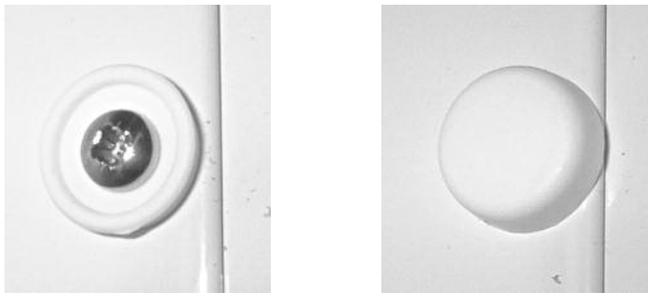

Figure a13i
13. Fix the 9mm Screws (L) into the Base Caps (K) and then screw fix into the holes drilled in Stage 12 with a Screwdriver. Press fit the Coloured Cover Caps (K) over the top of Screw Base Caps once fully tightened (**Figure a13i**).